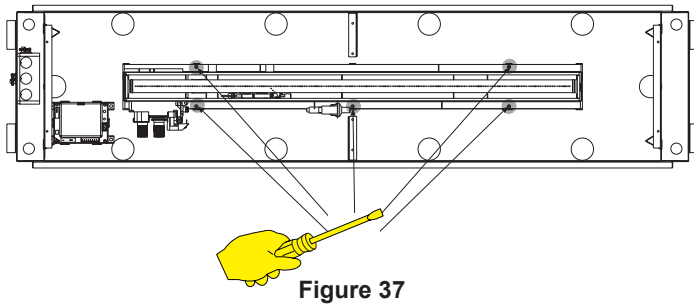

Figure 37
2. Remove burner box from fireplace. **See Figures 37 and 38.**